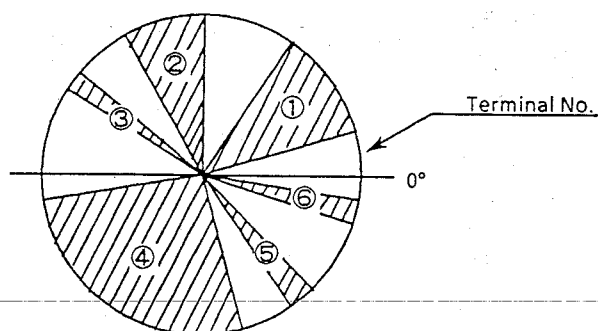

Fig. 3-1. Cam switch pattern
- * The cam switch has the pattern as shown in Fig. 3-1. The circuit turns on when the signal comes on the shaded zones on the switch. The six pattern signals are judged to be on or off by the system controller in order to detect the mechanism modes.